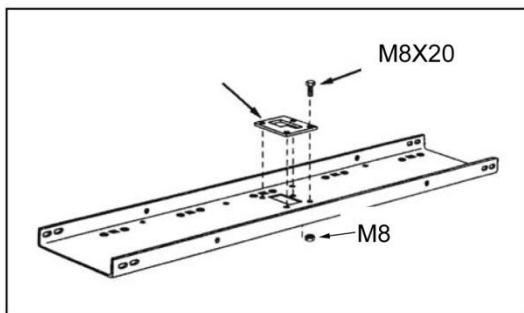

Figure 1
1. Fit the lifting plate on the mounting plate with four M8x20 bolts and M8 lock nuts (fig. 1). Tighten as firmly as possible.